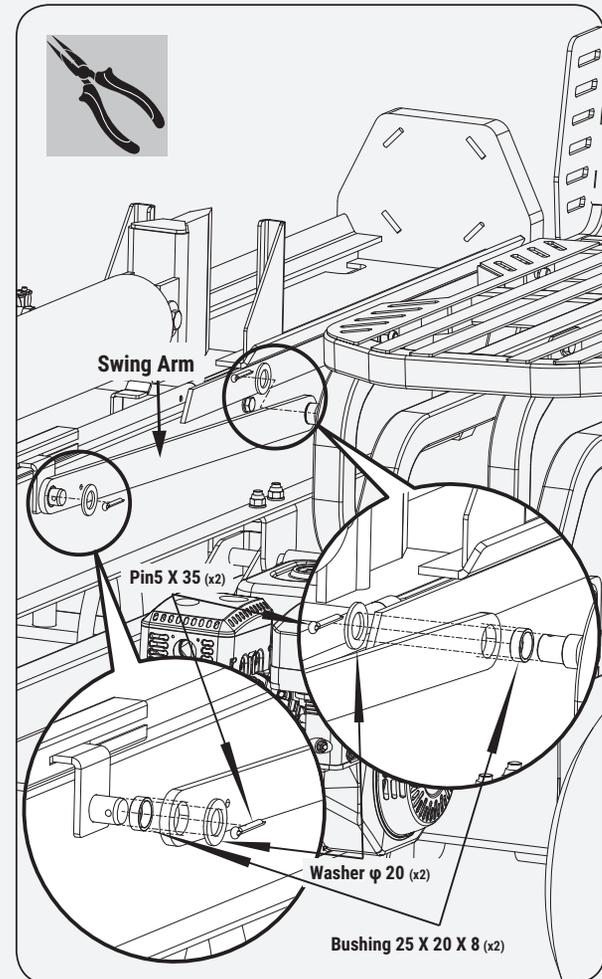

Figure 22
1. The front hole of the swing arm is fixed to the short shaft on the side of the left leg with bushing, washer and cotter pin. and the rear hole of the swing arm is fixed on the short shaft on the inside of the bending plate. The inner side is fixed with a bushing, a washer and a cotter pin. (See **Figure 22.**)